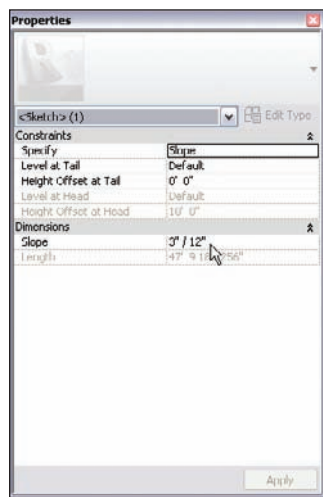

FIGURE 7.42 Changing the Slope Arrow properties
6. Under Dimensions, change Slope to 3' / 12" (see Figure 7.42).